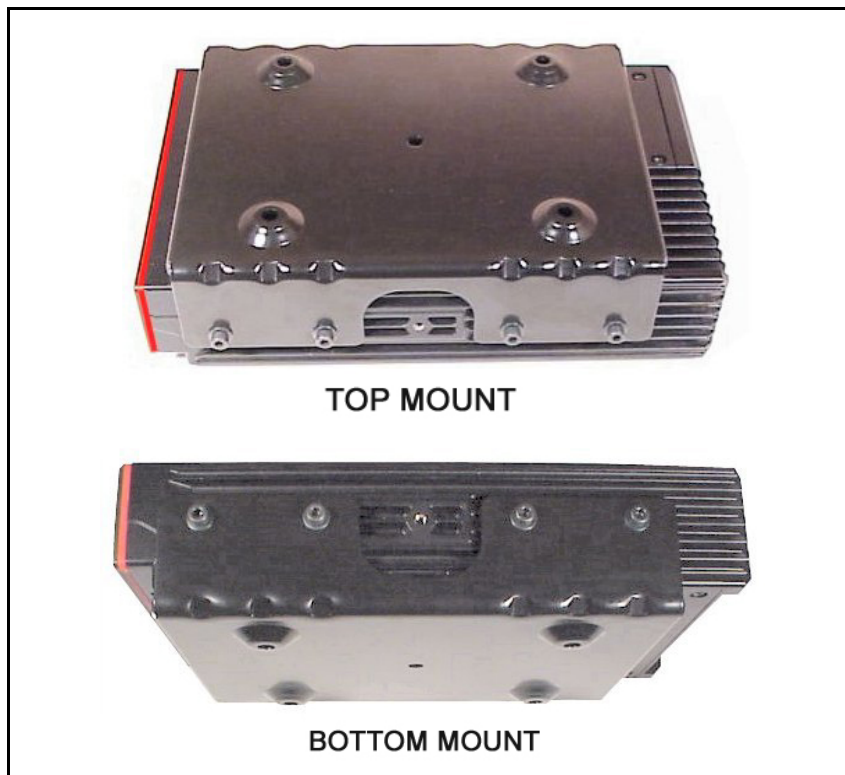
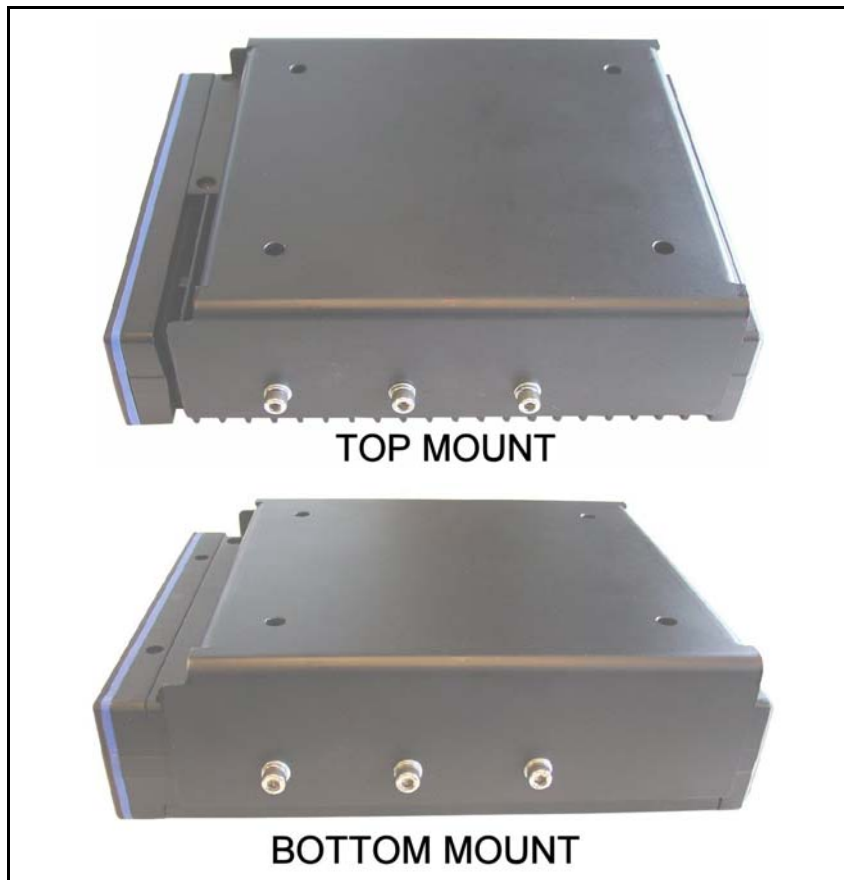

Figure 10-15: Remote Mounting Bracket Installation (60W TX and Above)
Figure 10-16: Remote Mounting Bracket Installation (50W TX and Below)
The bracket shown in Figure 10-15 is used with the 110W VHF M7100 in Remote Mount configurations. (The 110W VHF radio is not available in Front Mount configurations.) The bracket shown in Figure 10-16 is used with the 800 MHz, UHF-H, UHF-L, and 50W VHF M7100 radios in Remote Mount configurations. The following instructions are for Remote Mount configurations using the brackets shown in Figure 10-15 and Figure 10-16.
3. Slide the radio unit into the bracket by aligning bracket guides with grooves on each side of radio (rear of radio should be inserted first). Slide radio back until screw holes in front of bracket align with screw holes in side of radio. (Refer to Figure 10-15 or Figure 10-16 depending on radio and bracket type.)